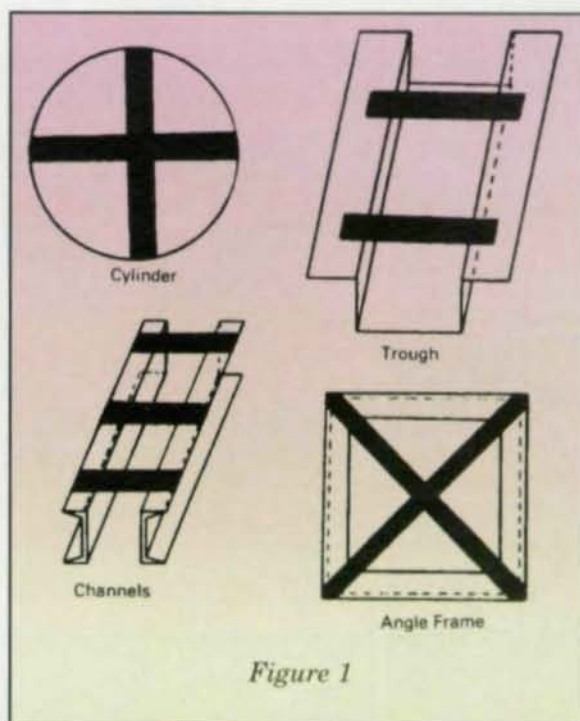

Figure 1
- Bracing and reinforcing are recommended to avoid warpage and distortion in some assemblies. Consult your galvanizer for recommendations. (See Fig 1)